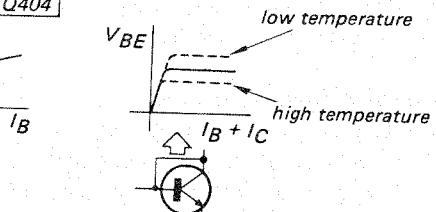

Fig. 10
- D401, Q403, Q404 and D402 form a thermally-compensated constant voltage circuit, which operates as follows (the voltages referred to here are relative to the B- voltage): D402 (EQB01-05) is a 5V zener diode which maintains the emitter of Q404 at +5V level. To obtain a flat base voltage ( $V_{BE}$ ) from the collector of Q404, the base and collector are connected as shown in Fig. 10. The characteristics referring to this connection are also shown in Fig. 10.